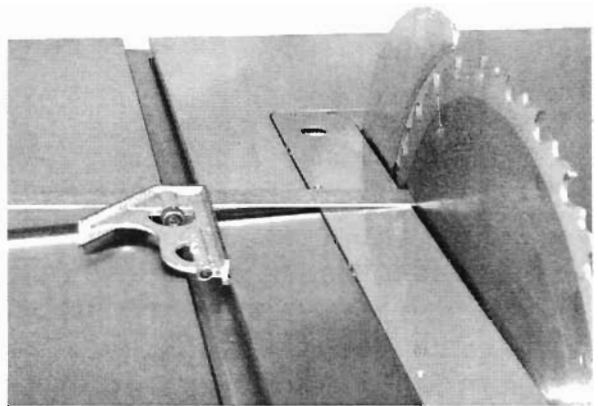

Figure 23
To check and align the table (refer to Figure 23):
3. Choose a tooth on the far side of the blade (toward the rear) and position the tooth slightly above the table insert. Mark the tooth with a marker. Measure the distance from the side of the blade to the right T-slot edge using a combination square. Make sure to measure between the teeth not to the tooth (Figure 23).